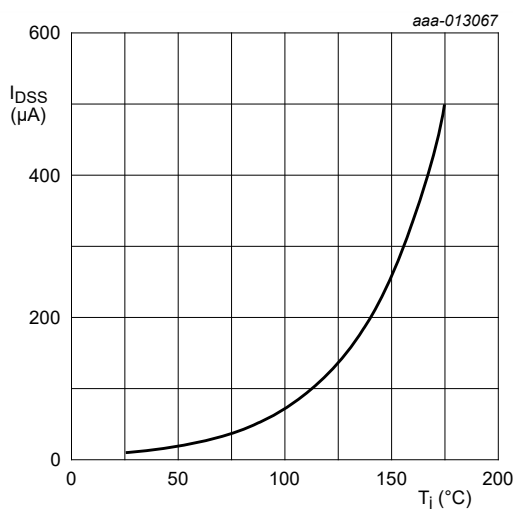
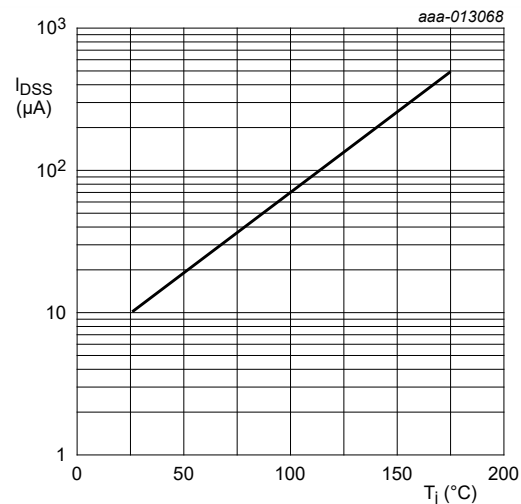

Fig. 28.  $I_{DSS}$  as a function of temperature, linear axes
Fig. 29.  $I_{DSS}$  as a function of temperature, log - linear axes
**A:** The fundamental relationship between drain leakage current and temperature is exponential in form. The data sheet gives maximum values of  $I_{DSS}$  at  $T_j = 25^\circ\text{C}$  and  $175^\circ\text{C}$ . This example is specific to Nexperia Trench generation 2 technology but the same principles can be applied for other Nexperia technology. An exponential fit to these points provides the plot of Fig. 28. It is also in line with some testing which is performed during the development of new MOSFET technologies.
Fig. 29 is the same curve, plotted with a log scale for  $I_{DSS}$  to ease reading the value of  $20\ \mu\text{A}$  at  $50^\circ\text{C}$ . These values are for a  $V_{DS}$  at the rated voltage. Reducing voltage reduces leakage current. Note that Fig. 28 and Fig. 29 are not in the device data sheets.